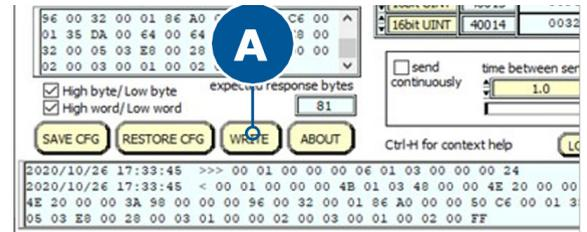

Figure 47.1.
- On the main screen click the Write button **(A)** near the bottom of the window as shown in Figure 47.1.